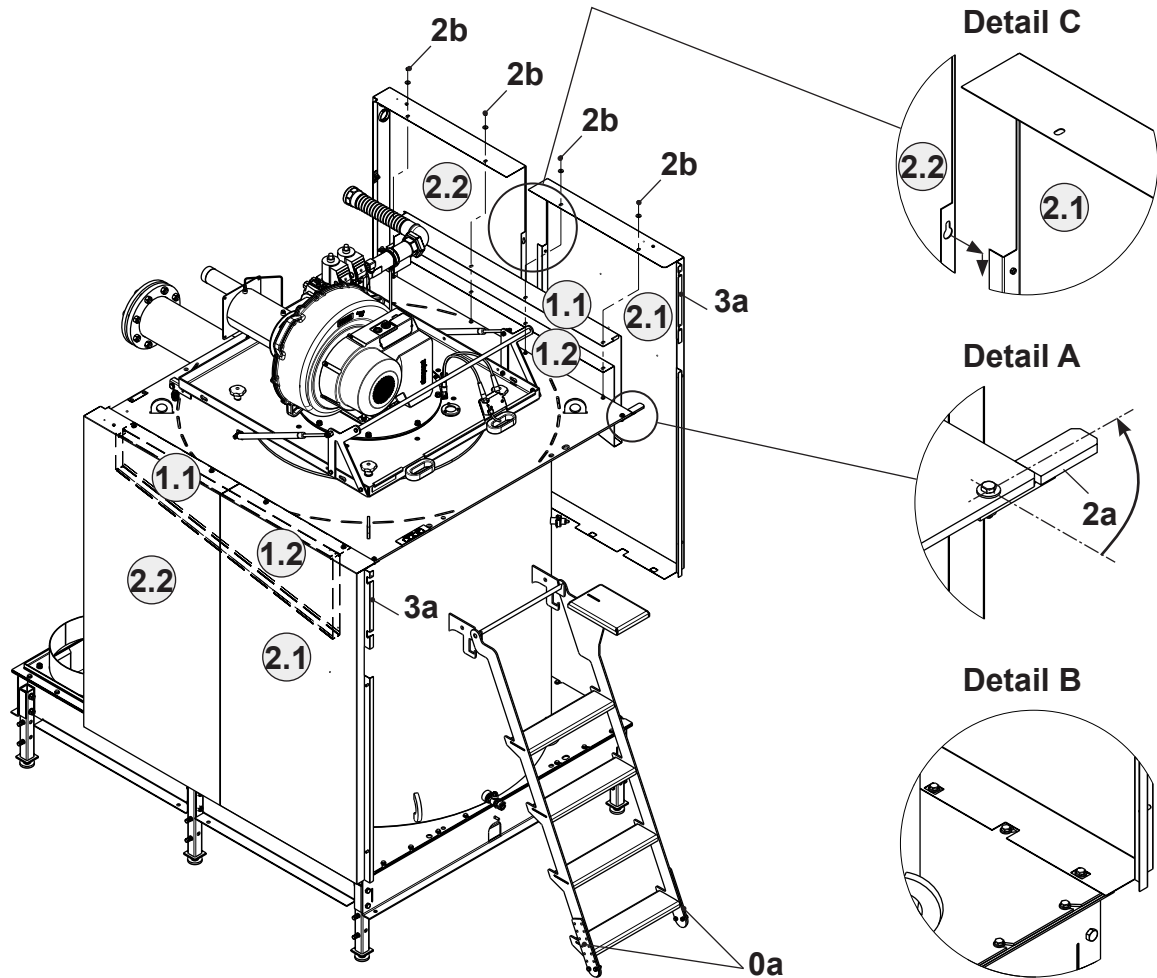

Fig. 11
2. Mount the two cable ducts (1) on the boiler:
- Hang the side wall section (2.1 or 2) on the boiler in such a way that the recesses at the top and bottom are positioned over the screws ("Fig. 11", page 15, detail B).
- Hook the lowest rear wall section (5) with the side recesses (5a) onto the corresponding screw heads (5b) of the side walls.
- Align lower side wall (2 or 2.1/2.2, Fig. 11) and fix position by tightening the screws (2a, Fig. 11).
- Installing upper side wall (7):
- Place the slots (7a) in the base of the upper side wall (7) on the corresponding screw heads of the lower side wall (2 or 2.1/2.2, Fig. 11) and then fix the upper and lower side walls together by pushing the upper side wall (7) backwards.
- Secure the upper side wall (7) using self-trapping screws (7b) \varnothing 3.5 x 10.